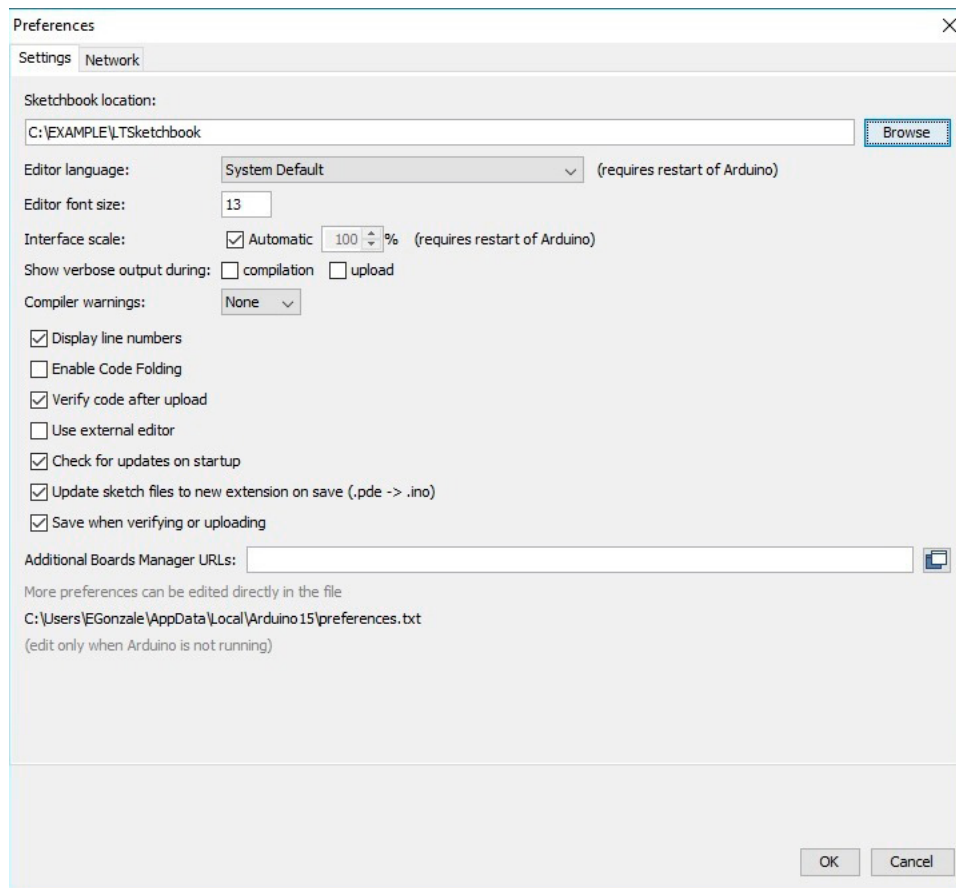

Figure 5. Sketchbook Location Path
2. Set the Arduino IDE to open BMS Sketchbooks. From within the Arduino IDE, click on **File** menu select **Preferences**. Then under **Sketchbook location**: select **Browse** and locate the path to the extracted **LTSketchbook.zip** file that was downloaded (see Figure 5).